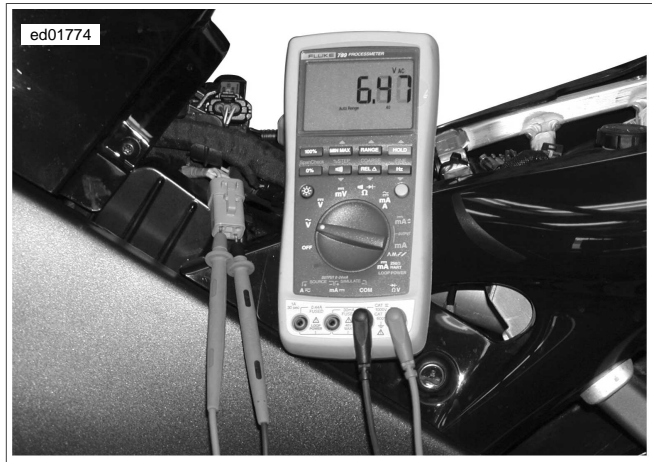

Figure 3-19. Check Stator AC Voltage Output (typical)
- b. See Figure 3-19. Connect an AC voltmeter across stator connector terminals 1-2.